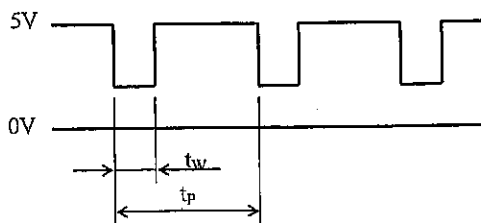
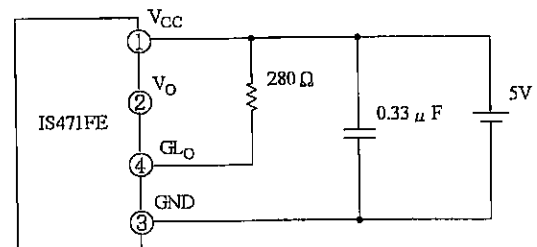

Fig.1
fig.2
*1 The definition of Pulse frequency(t_p) and Pulse width(t_w) are shown in fig. 1.
The wave form of fig. 1 shows the output voltage wave of G_{LO} terminal of the diagram of fig. 2.
(Note) It shows the GL_O terminal's waveform at fig 2 diagram.